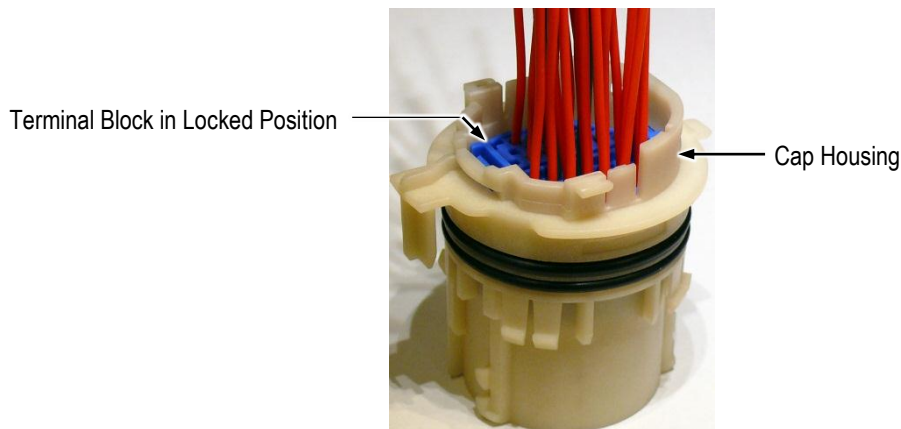

Figure 5
7. Push the terminal block into the cap housing until it is in the locked position. See Figure 5.